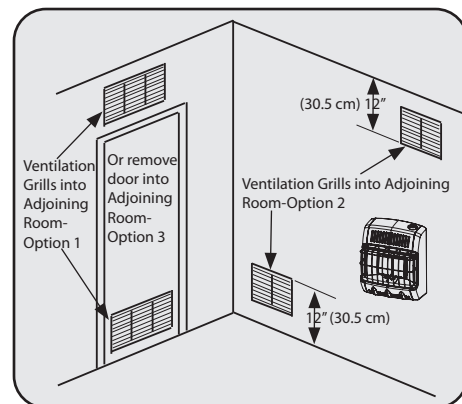

Figure 2
- a. Rework worksheet, and the space of an adjoining room. If the extra space provides an unconfined space, remove door to adjoining room or add ventilation grills between the rooms. See Ventilation From Inside Building (Fig. 2)
figure 2). You can also remove door into adjoining room (see option 3, fig 2). Follow the National Fuel Gas Code NFPA 54/ ANSI Z223.1, Section 5.3, Air for Combustion and Ventilation for required size of ventilation grills or ducts.